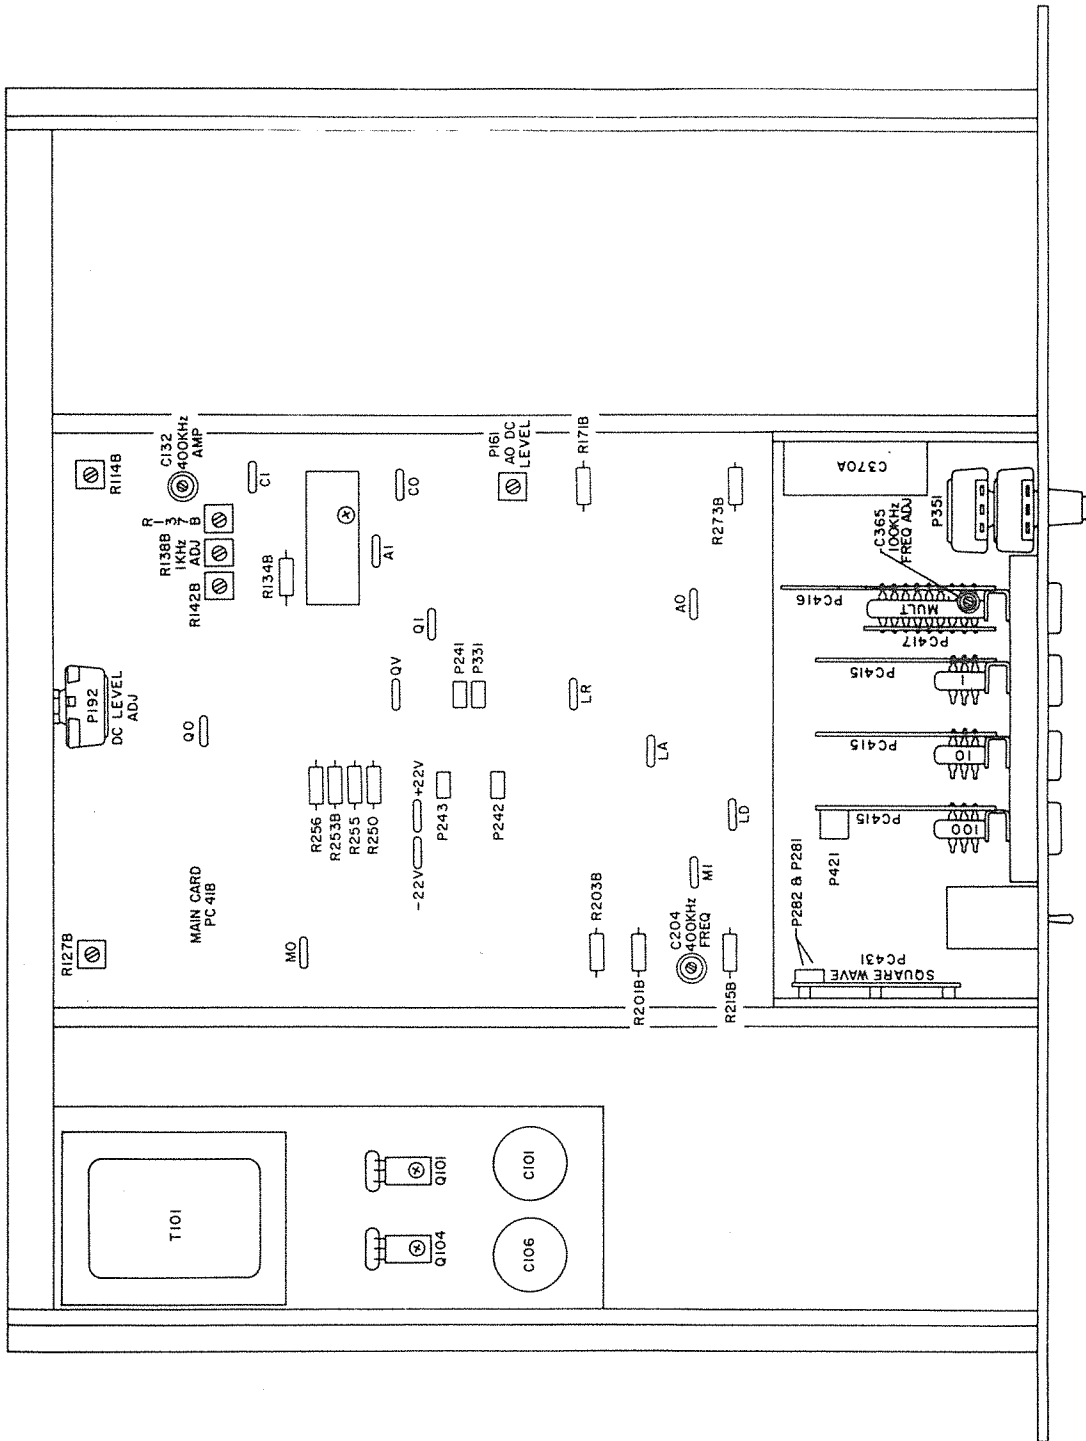

Figure 3. Exposed Top View of Oscillator
If the Oscillator is not functioning properly and requires service, the following procedure may facilitate locating the source of trouble. The general layout of major components of the Oscillator is shown in Figure 3. The Oscillator consists basically of an unregulated power supply chassis in the rear, which can swing up to facilitate maintenance, a large printed circuit card, PC418, and five small printed circuit cards associated with the frequency controls. The most frequently used check points have been provided with test points. They are identified as shown in Figure 3.
If the sine wave output appears to be correct, but the Square Wave is not, refer to Section 4.9. First check the two dc Power Supply voltages at the +22 vdc and the -22 vdc test points which are on the large card as shown in Figure 3. If these levels are off by more than ± 1 volt, refer to Section 4.4.
If these supplies are correct, check the Main and AVC Amplifier output dc levels with respect to signal ground at test points (MO) and (AO) respectively, positioned on the large card as shown in Figure 3. To prevent spurious oscillations from disturbing these measurements short circuit the input of the Main Amplifier by connecting the test point (MI) on the large card to signal ground (shell of BNC connector). These dc levels should both be within less than ± 0.1 volt. If necessary adjust these levels. The screwdriver control P192 for adjusting the output dc level of the Main Amplifier is at the rear of the chassis. The screwdriver control P161 for adjusting the output dc level of the AVC Amplifier is mounted on the large card as shown in Figure 3. If the correct levels can not be obtained, the trouble is probably in either the MAIN or AVC Amplifiers respectively, and reference should be made to Section 4.5 or Section 4.6 whichever is applicable.
If it becomes necessary to replace the reference zener Z101, the voltage of the +22 supply will probably have to be readjusted. This may be done by adjusting potentiometer R114B, located on the large card, PC418, as shown in Figure 3. R114B should be adjusted so the plus 22 supply is within +22, ± 1 volt. If the -22 supply exceeds -22 ± 1 volt, adjust potentiometer R127B, also located on the large card, PC418.
When it is necessary to replace the FET (field effect transistor), Q161, the AVC Amplifier output dc level may have to be retrimmed. Short circuit test point (MI) to chassis, and check the AVC Amplifier output dc level at test point (AO). Adjust the (AO) dc level control P161, positioned on the large card as shown in Figure 3, until (AO) is at zero ± 0.1 volt. If P161 will not zero the (AO) dc level, change the fixed trim resistor R171B in parallel with R171A (do not disturb R171A). This adjustment should be made with P161 centered for optimum range of adjustment.
The following procedure is provided for the purposes of facilitating the calibration and adjustments of the Oscillator in the field, and adherence to this procedure should restore the Oscillator to its original specifications. If any difficulties are encountered, please refer to Maintenance, Section 4. If any questions arise which are not covered by this procedure, please consult our Factory Service Department. The location of all major components, modular sub-assemblies, test points, screw-driver controls and adjustments are shown in Figure 3.
With the Oscillator operating at 115 volts line, and frequency at 100 Hz (1-0-0, X1) check the +22 and -22 volt regulated supplies with respect to signal ground (shell of BNC connector). The Floating/Chassis grounding switch located on the rear of the chassis should be in the Chassis position. All test points locations are shown in Figure 3.
a. (AO) test point on large card PC418	P161 located on large card PC418
b. (MO) test point on large card PC418	P192 located on rear of chassis
To obtain low distortion it is necessary that the AVC Amplifier be adjusted properly. Set the Oscillator frequency to 100 Hz (1-0-0, X1). Connect a high sensitivity oscilloscope (at least 10mv/cm) to the AVC Amplifier output at test point (AO), located on the large card PC418, as shown in Figure 3. The square wave component in the (AO) signal should be less than 10 mv peak to peak. If it is not, adjust P331 (located on the large card) for minimum (AO) signal. Figure 6b shows the (AO) signal, which is a sine wave with spikes at peak amplitude, when P331 is adjusted correctly. Note the absence of a square wave signal. In Figure 6a P331 is off one way and in Figure 6c, P331 is off the other way; and both have a 20
Set the multiplier switch to the X10 position. Measure the output dc level of the AVC Amplifier at test point (AO). It should be 0 ± 10 millivolts. If it is not, adjust potentiometer R142B, for minimum dc level. R142B is located on the large card PC418, as shown in Figure 3.